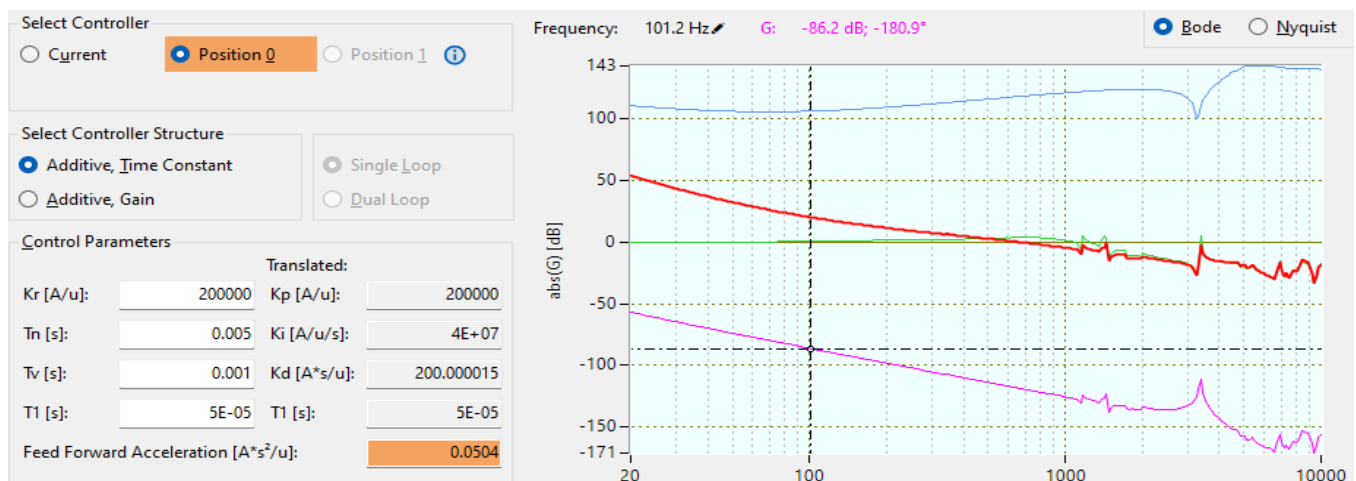

Figure 65: Calculation of the acceleration feed forward. With a measured amplitude of -65.3dB at 29.8Hz, the acceleration feed forward is set to 0.052.
3. At lower frequencies the amplitude in the Bode view of *Gplant* should show a linear section with a drop of 40dB per frequency decade and a phase angle of -180 degree. Place the cursor at a frequency f within the linear section (see also Figure 65).